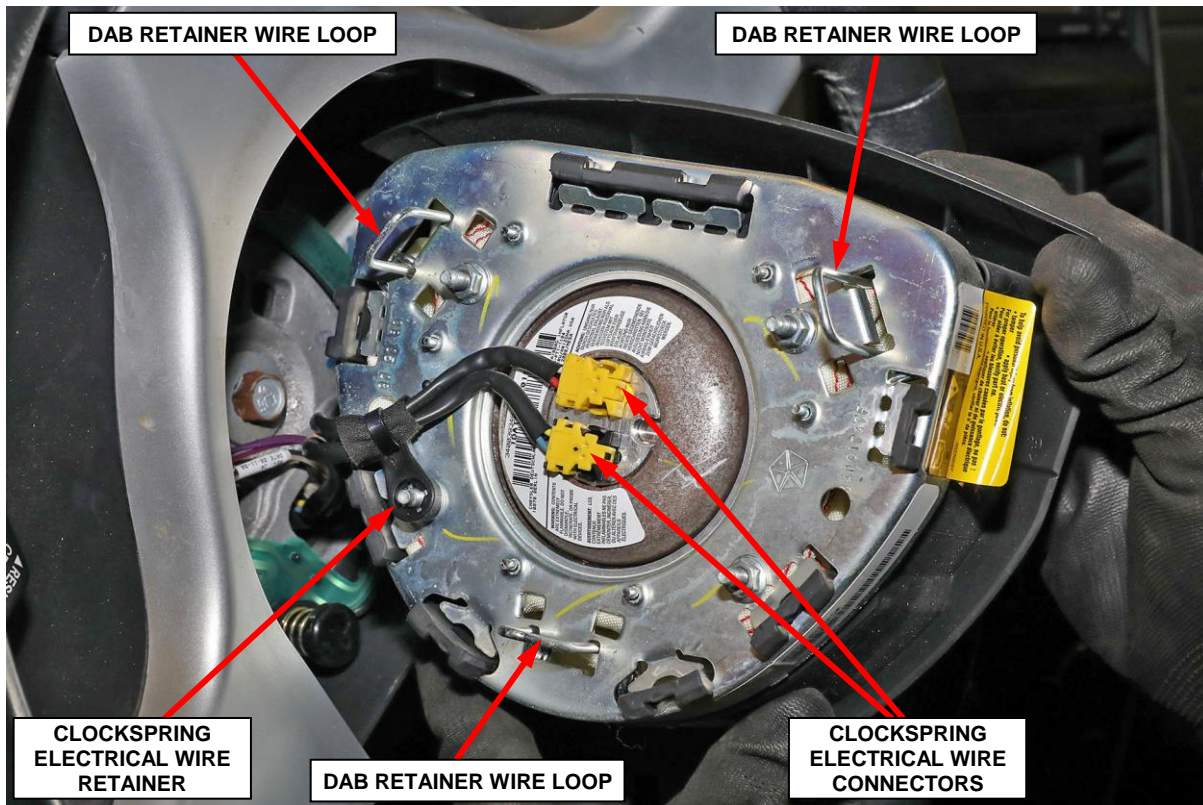

Figure 4 – DAB Retainers and Clockspring Electrical Wire Connectors
11. Pull the driver air bag away from the steering wheel far enough to access the clockspring electrical wire connectors at the back of the air bag housing (Figure 4).
12. The air bag electrical wire harness has a plastic retainer that is pushed onto one of the inflator mounting studs on the back of the air bag housing. Pull the retainer off of the stud (Figure 4).
13. The clockspring driver air bag pigtail wire connectors are secured by an integral lock to the air bag inflator connector receptacles, which are located on the back of the DAB housing. Firmly grasp and pull the lock straight out from the connector insulator, then pull the insulators straight out from the air bag inflator to disconnect them from the connector receptacles (Figure 4).